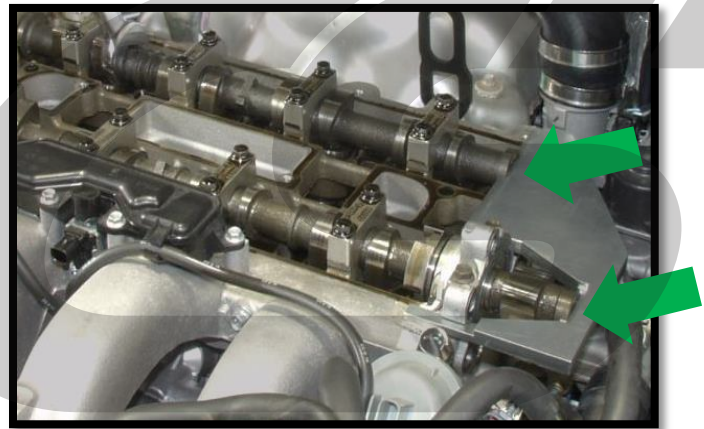

Figure 5h
- h) Place the camshaft locking tool into the slots machined into the ends of the camshafts (as shown in **Figure 5h**).